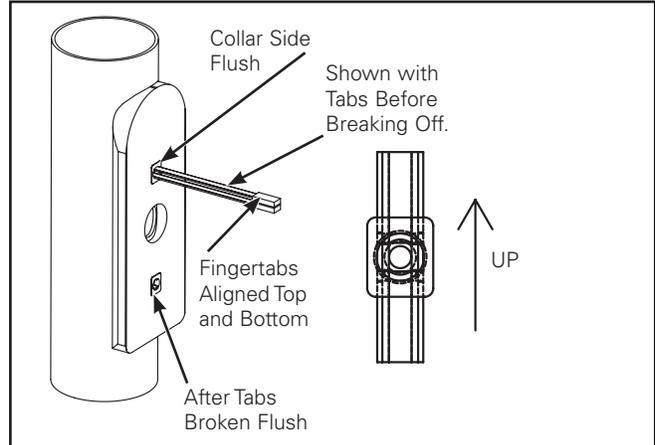

Figure 2.
1. Mount toggle bolts to pole by inserting the toggle into the pole. If using a round pole mount adapter (optional) shown, install toggle through the 1/2" holes first. Cinch up collar against pole and remove finger tabs. Squeezing the tabs will shear them at the cinch collar. (Figure 2.)